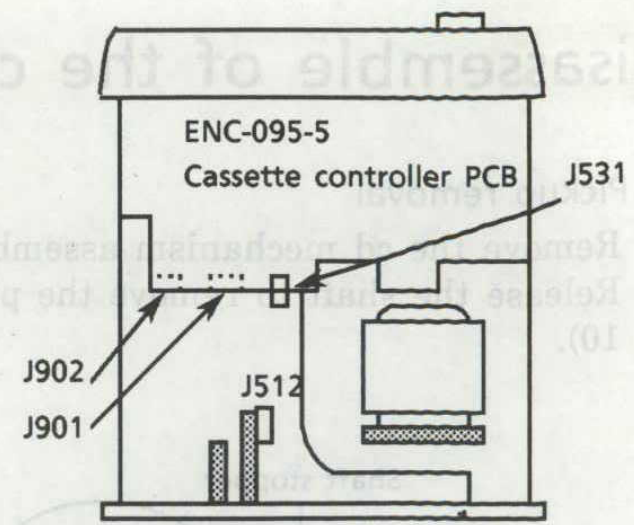

Fig 5
5. Remove the 3 screws (E) AND (E') on the bottom of the front panel.
7. Remove the assembly, disconnecting connectors J512, 531, 901 and 902 (Fig 5).